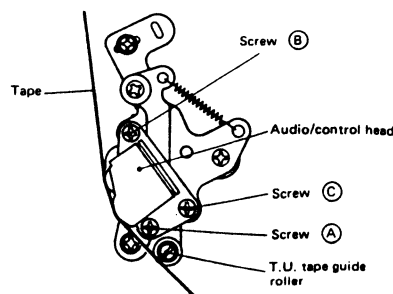

Fig. 2-48 A/C head height adjustment
- Adjust screws (A) and (B) (shown in Fig. 2-48) for both maximum output levels and absence of phase difference between CH-1 and CH-2.